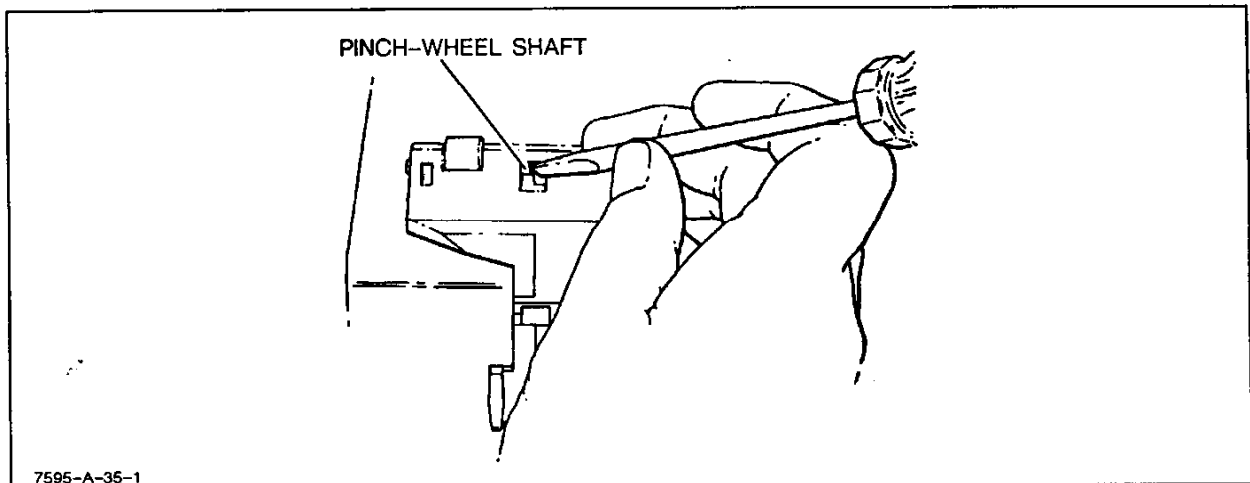

Figure 6-30. Pinch Wheel Removal
- a. Turn the plotter line switch to OFF (O) and disconnect the ac power cord.
- c. Insert a small flat-blade screwdriver in the access hole and push the center shaft out. See Figure 6-30.